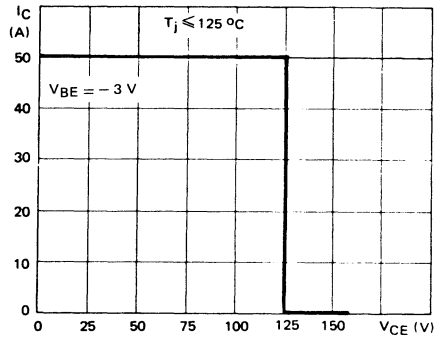

FIGURE 2 : Reverse biased safe operating area ( RBSOA )
**CIRCUITS DE MESURE DES TEMPS DE COMMUTATION(et oscillogrammes)** (figure 2)